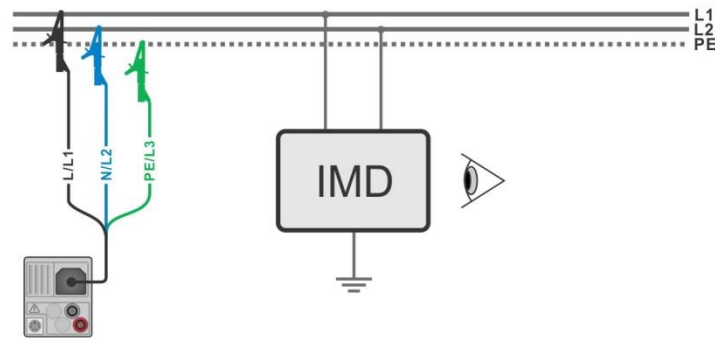

Figure 7.94: AUTO IT measurement
- Connect test leads to the object under test, see **Figure 7.94**.